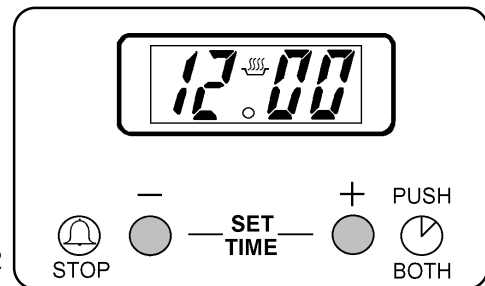

Fig.3
Within five seconds, press and hold either button (1) to decrease or button (2) to increase the time until the correct time of day on the 24 hour clock is reached, e.g. 14:30. The cooking symbol (☁) will go out. See Fig. 3.